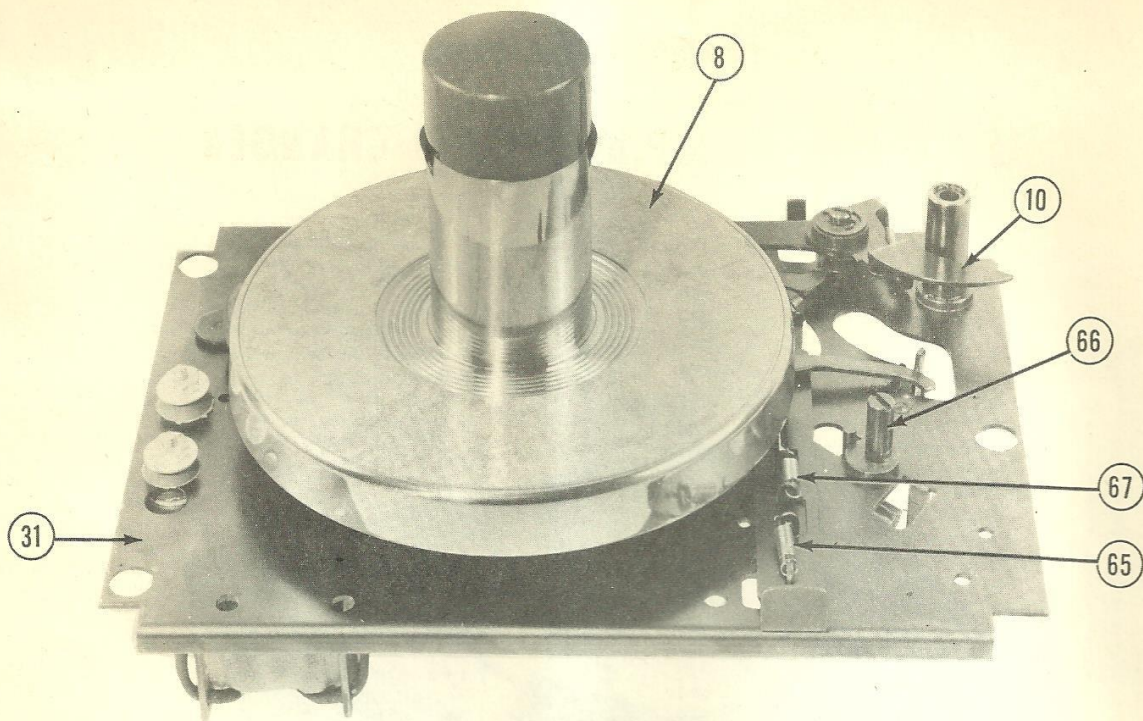

FIGURE 2
Normally, the set-down position is adjusted by turning the eccentric adjusting stud (66), Figures 2 and 3, made accessible through the hole (AA) in the motorboard (exploded view). If the pickup lands on the music grooves of the record, turn the stud slightly clockwise; turn counter-clockwise if the arm lands too near the edge of the record. However, if for any reason the trip lever (53) is loose on the shaft (15), the set-down position must be adjusted as follows:
2. Set the adjusting stud (66) in a neutral position.
3. Move the reject knob (18) forward and release.
4. Turn the turntable clockwise, by hand, until the tone arm starts to lower. At this point, the lever (53) is held by the pawl (60A) of the lever assembly. Be sure screw (56) is loose enough to slide lever (53).
5. Push up on the lever (53) and down on the tone arm (11), leaving approximately .010" vertical play.
6. While holding the lever (53) in position, move the tone arm over the starting groove of the record.
7. Tighten the clamp screw (56).
9. A finer adjustment may be made by turning the adjusting stud (66) as described in the first part of the set-down adjustment.